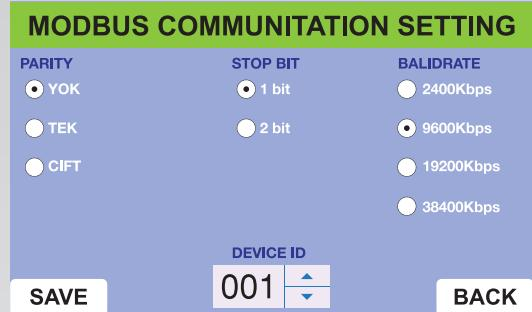

Figure 14: Modbus Communication Settings
PARITY, STOP BIT, BAUD RATE and DEVICE ID adjustments can be made in Modbus communication settings. If more than one device will be communicated with the same building automation system from the DEVICE ID setting, the device-specific ID number is determined from each panel connected to the system. The settings defined for the other features can be adjusted as can be seen in Figure 14. (YOK=NONE, TEK=ODD, CIFT=EVEN) Reading and writing can be performed via the Modbus RTU protocol. For versions 4 (V4) and higher (V5), the register table is shared below in Table 3. Using the Modbus 06 Write Single Register function, data can be written to the specified (W) addresses.